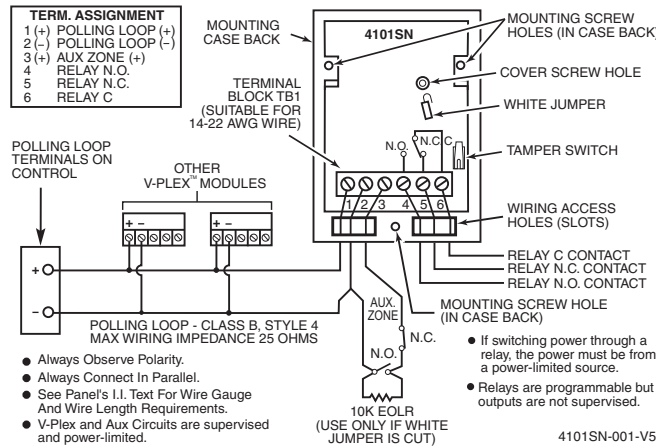

Figure 1: 4101SN V-Plex Single Output Relay Module
1. Remove the case cover by first removing the screw. (See *Figure 1*.)
2. Make wiring connections as shown in *Figure 1*. When you leave the white jumper intact, the 10k